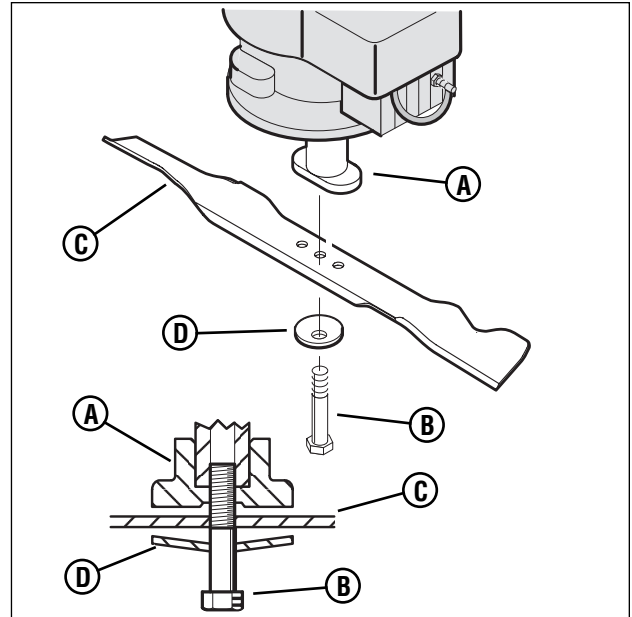

Figure 22: Removing the blade
Frequently check the blade for wear or damage such as cracks. Frequently check the bolt that holds the blade. Keep the bolt tight. If the blade hits an object, stop the engine. Disconnect the wire to the spark plug. Check the blade adapter (**A, Figure 22**) for damage. Check for a bent or damaged blade, a badly worn blade, or other damage. Before you operate the unit, damaged parts must be replaced with factory replacement parts. For safety, replace the blade every two years. Keep a sharp edge on the blade. A blade that is not sharp will cause the ends of the grass to become brown. Remove the blade as follows.
4. Remove the bolt (**B, Figure 22**) that holds the blade with a 9/16" (14mm) wrench.